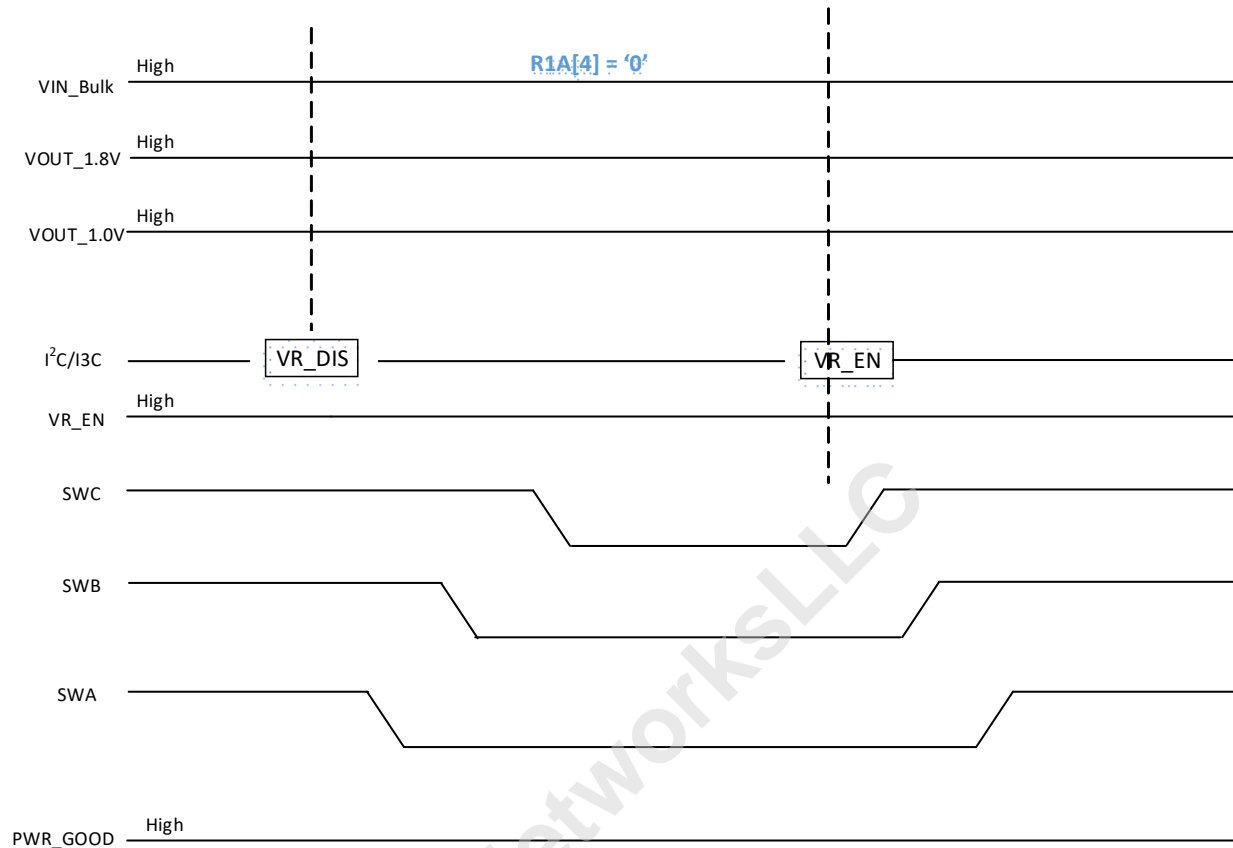

Figure 27 — Power Down with VR_DIS; R1A[4]=0; Program. Mode; PWR_GOOD Signal
- b. If VR Disable command on a I²C/I³C Bus (i.e., Table 138, "Register 0x32" [7] = '0'), PMIC keeps the PWR_GOOD signal floating because this is an intentional command from the host and not a fault condition. The host can re-enable the PMIC's output regulators by issuing VR_EN command on the I²C/I³C bus (i.e., Table 138, "Register 0x32" [7] = '1'). The PMIC executes power on sequence config 0 to power on sequence config 2 registers and continues to float the PWR_GOOD signal until tPMIC_PWR_GOOD_OUT time at which point, PMIC assumes normal control of PWR_GOOD signal. See Figure 27. The PMIC does not require power cycle.
2. Configuring one or more bits in Table 135, "Register 0x2F" [6,4:3] to '0' in any specific sequence that is desired by the host. The PMIC does not execute power off sequence config0 (Table 167, "Register 0x58") to power off sequence config2 (Table 169, "Register 0x5A") on its own. The PMIC keeps the PWR_GOOD signal floating because this is intentional command from the host and not a fault condition. Note that host can re-enable any of disabled output regulators by configuring one or more bits in Table 135, "Register 0x2F" [6,4:3] to '1' in any specific sequence that is desired by the host. The PMIC keeps the PWR_GOOD signal floating. The PWR_GOOD signal behavior is same as in Figure 27.